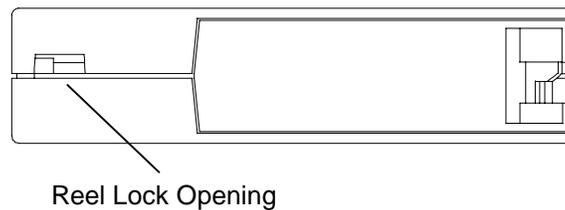

Figure 5-6 Location of Side Reel Lock Tab
4. Hold the tape cartridge so that the end of the cartridge that is normally inserted into the tape drive is instead facing you. Locate the small reel lock opening on the left side of the tape cartridge (Figure 5-6). Inside and near the center of this opening, you should see a small plastic tab. This is one of the reel locks. The reel locks can break if the cartridge is dropped and this may cause any rattling sound when the tape cartridge is gently shaken. **If this reel lock tab is not visible do not use the cartridge.**